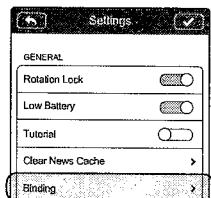
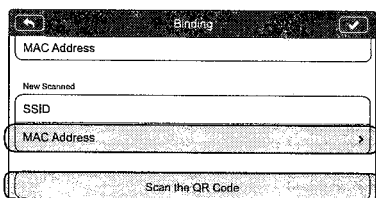
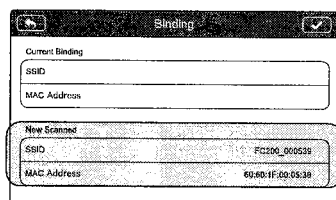
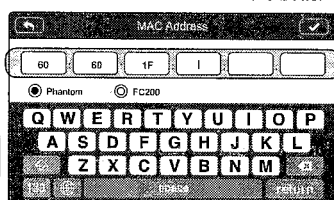

Figure 36
Figure 37
Figure 38
Figure 39
- (1) Power on the camera and Range Extender.
- (2) Approximately 30 seconds later, press the Binding Reset Button on the Range Extender with a pin until the SYSTEM Indicator turns off. The Range Extender will then restart automatically.
- (3) Approximately 30 seconds later, the SYSTEM Indicator will start to blink green, indicating that the Range Extender is ready for binding.
- (4) Enable Wi-Fi on your mobile device then select "Phantom\_XXXXXX" the (SSID of your Range Extender) from the Wi-Fi network list.
- (5) Run the DJI VISION App then tap -> Settings -> General -> Binding (Figure 36). Select 'Scan QR Code' to scan the camera QR code on the bottom of aircraft (Figure 37). Get the camera SSID (E.g. FC200\_XXXXXX) and the MAC address (Figure 38). You can also skip the scan and enter the camera MAC address directly (Figure 39). The MAC address can be found on the camera label.
- (6) Tap the tick ☒ in the top right corner. The Range Extender should automatically restart. Binding is now complete.